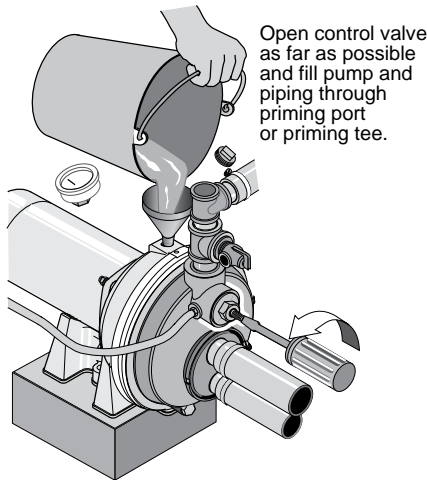

Figure 18: Fill Pump
1. Open the control valve as far as possible (see Figure 18). Then remove the priming plug from the pump and fill the pump, fill all piping between the pump and the well, and make sure that all piping in the well is full. If you have also installed a priming tee in the suction piping, remove the plug from the tee and fill the suction piping.